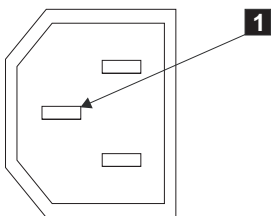

Figure 2. Ground pin
6. Check for continuity between the frame of the SAN Volume Controller and the ground pin of each main power connector. The ground pin is shown as **1** in Figure 2.